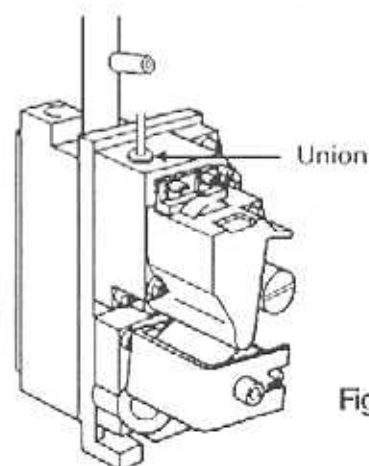

Fig.34
- 8.13.10 Undo union on top of the servo pressure regulator (fig.34).